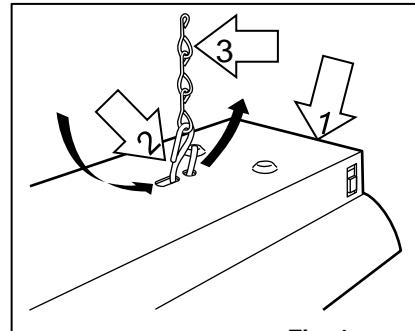

Fig. 1
1. Attach the small loop of each "S" hook (2) to the end of each support chain (3). Feed the large loop of each "S" hook (2) through the holes provided at each end of the channel (1). Close both ends of each "S" hook (2) using pliers. (Fig. 1)